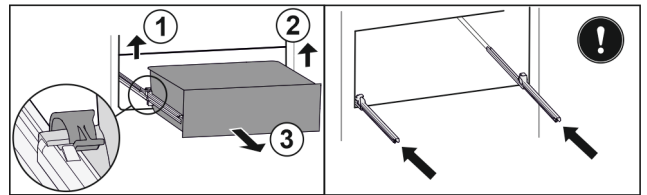

Fig. 19
- ▶ Lift left clamp and simultaneously pull drawer forwards on the left. Fig. 19 (1)
- ▶ Lift right clamp and simultaneously pull drawer forwards on the right. Fig. 19 (2)
- ▶ Remove drawer to the front. Fig. 19 (3)